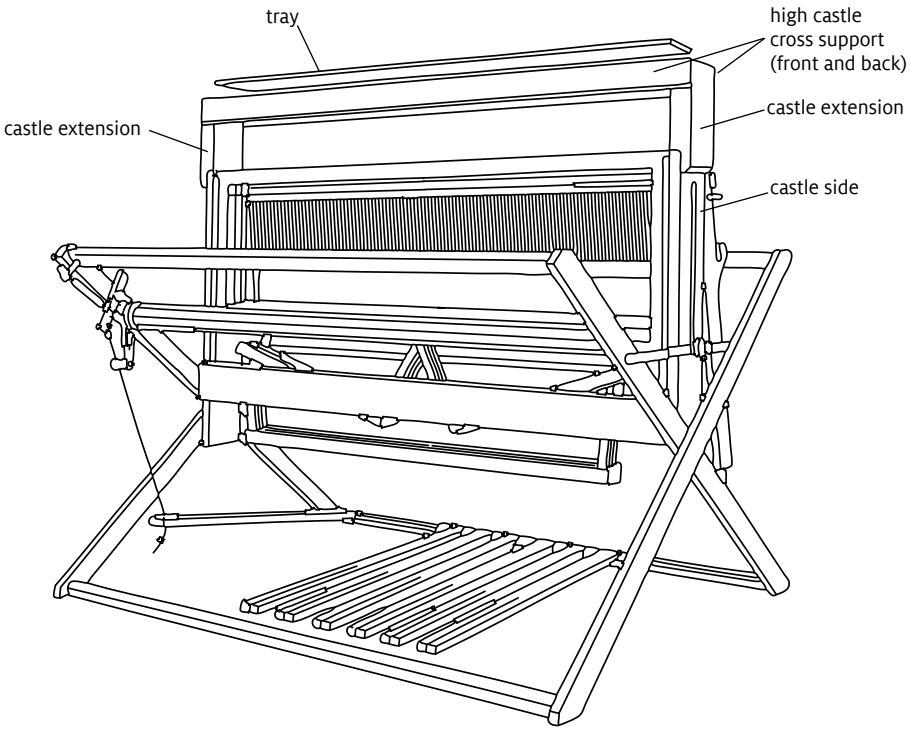

FIGURE 1
1. Mark the positions of the holes you need to drill in the castle sides of your loom. Hold one of the castle extensions firmly in place on top of one of the castle sides (figure 1). Make sure that the castle extension is flush with the edges of the castle side. Insert two 1" wood screws into the holes in the castle extensions and tap them lightly with a hammer.